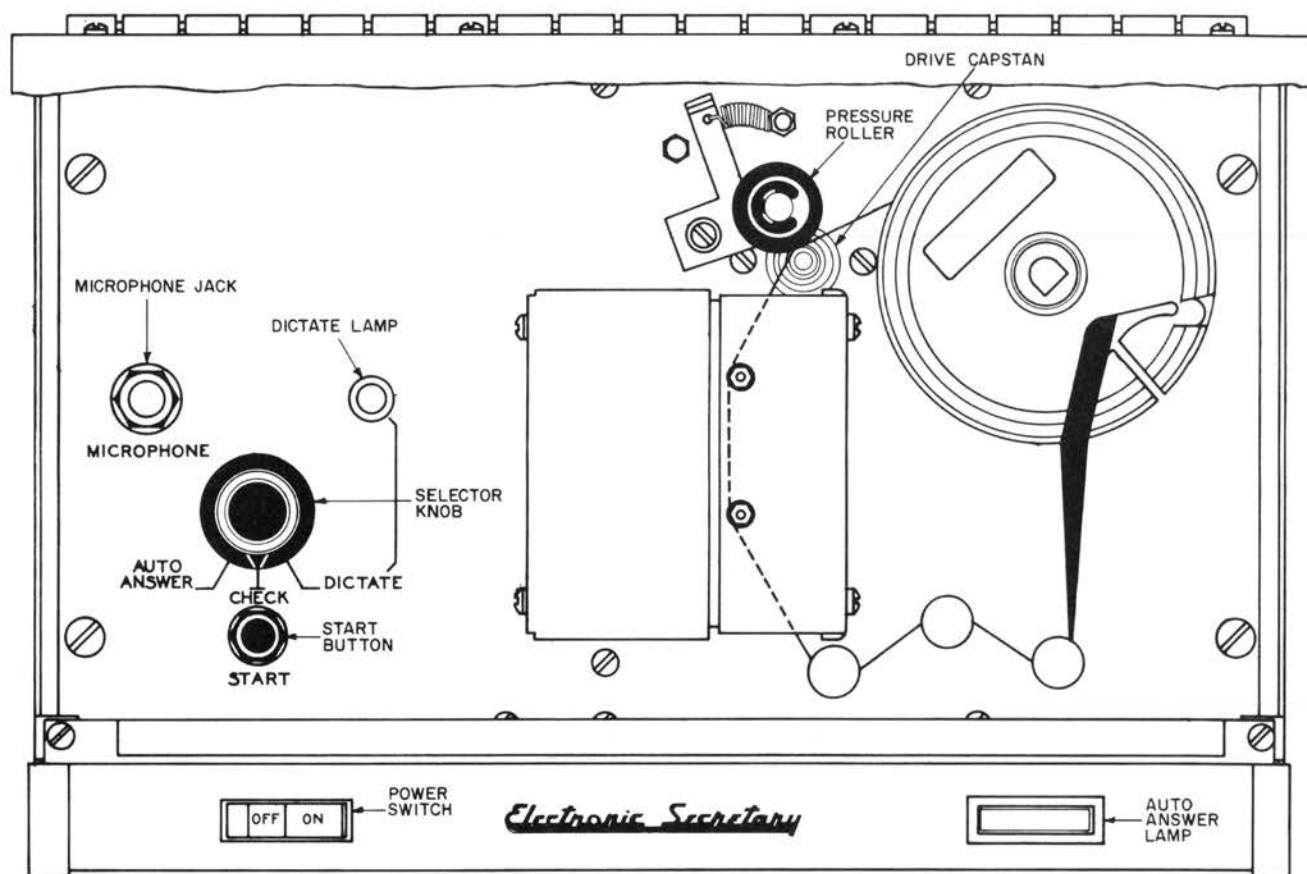

Figure 3. Deck of AO-3 (top view).
2.08 Place announcement message cartridge on "D" shaped spindle. Pull tape out of cartridge and thread around guide pillars and into slot (see figure 3). Pull back pressure roller assembly and thread tape between rubber pressure roller and capstan. Pull tape gently to take up slack. Tape must be positioned in the guide pillars between the heads and the lamp. Release pressure roller assembly.
3.01 The AO-3 performs the following three basic functions: (1) Dictate Announcement; (2) Check Announcement; and (3) Automatic Answer. The following paragraphs, in conjunction with figures 3 and 5 explain the basic functions. The information contained in this part should be referred to when instructing the customer on the operation of his unit.